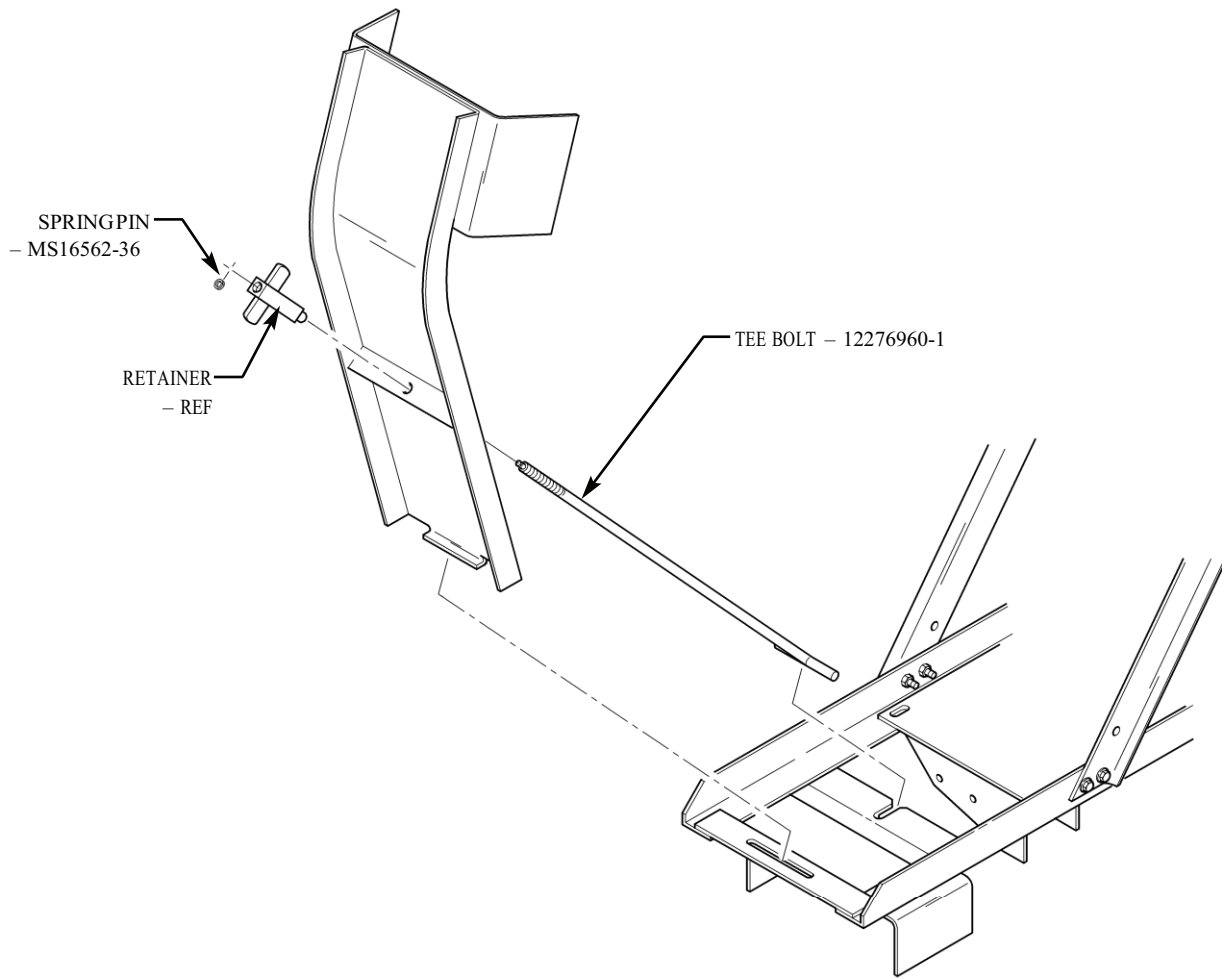

FIGURE 3
- (5) Install spare tire in spare tire carrier with 12276960-1 T bolt, retainer, and MS16562-36 spring pin as shown in figure 3.
When installed correctly, the M939 Spare Tire Repair Kit will appear as shown in figure 3.